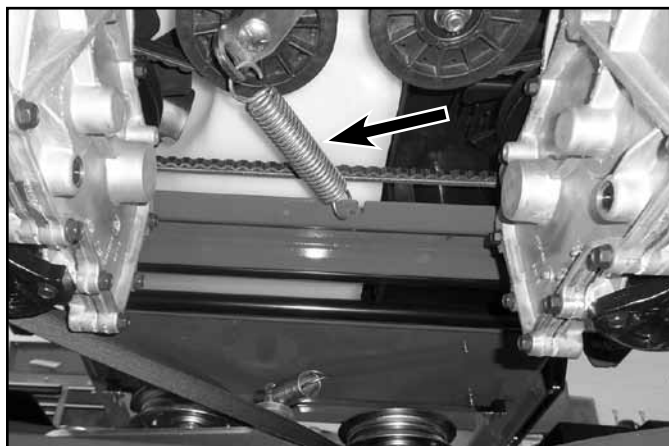

Fig. 084
7. Install and orient the drive belt tensioner spring as shown (Fig. 084).